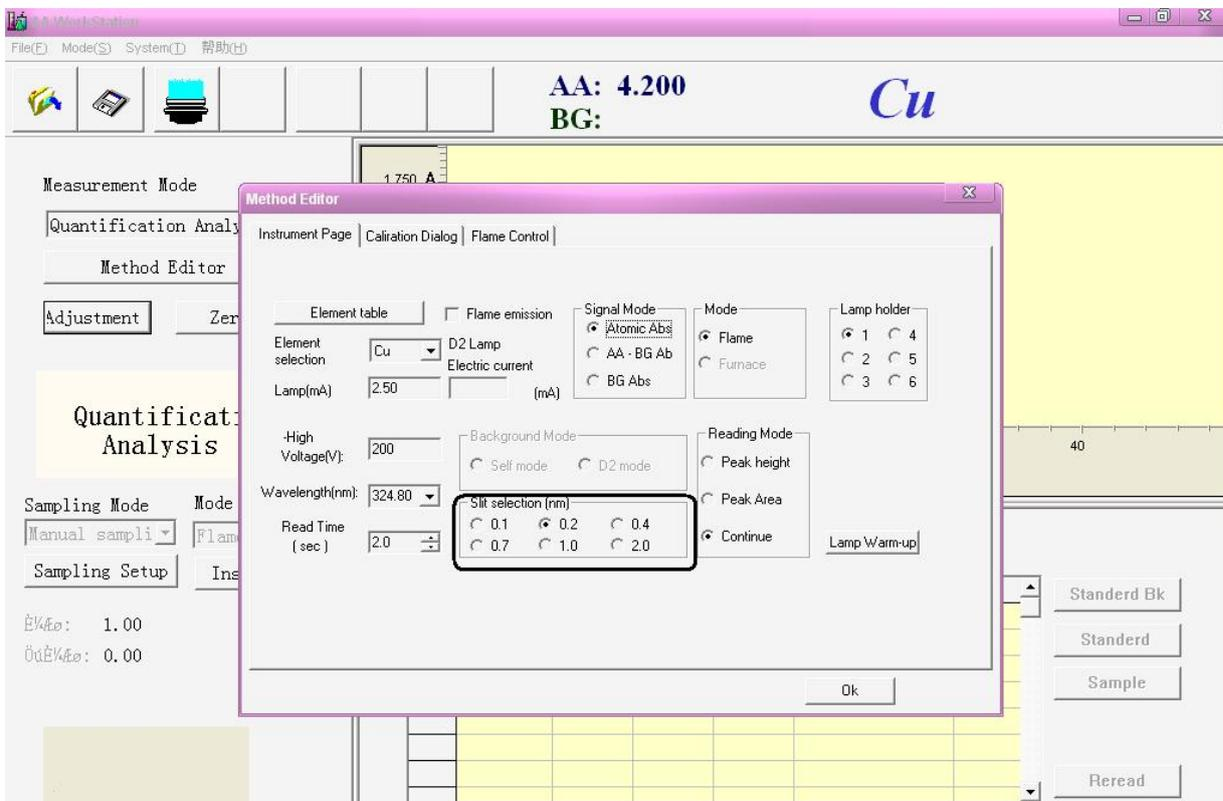

Figure 4-25
d."Slit Selection(nm)",only can select one among 0.1,0.2,0.4,0.7,1.0,2.0(Figure 4-25)